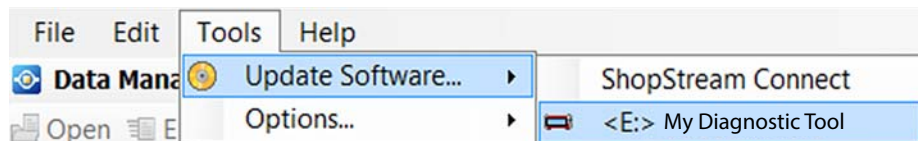

Figure 14-8
1. Select **Tools > Update Software > (diagnostic tool type - e.g. ETHOS Edge, MODIS Edge, SOLUS Edge, etc.)** from the Menu bar (Figure 14-8).